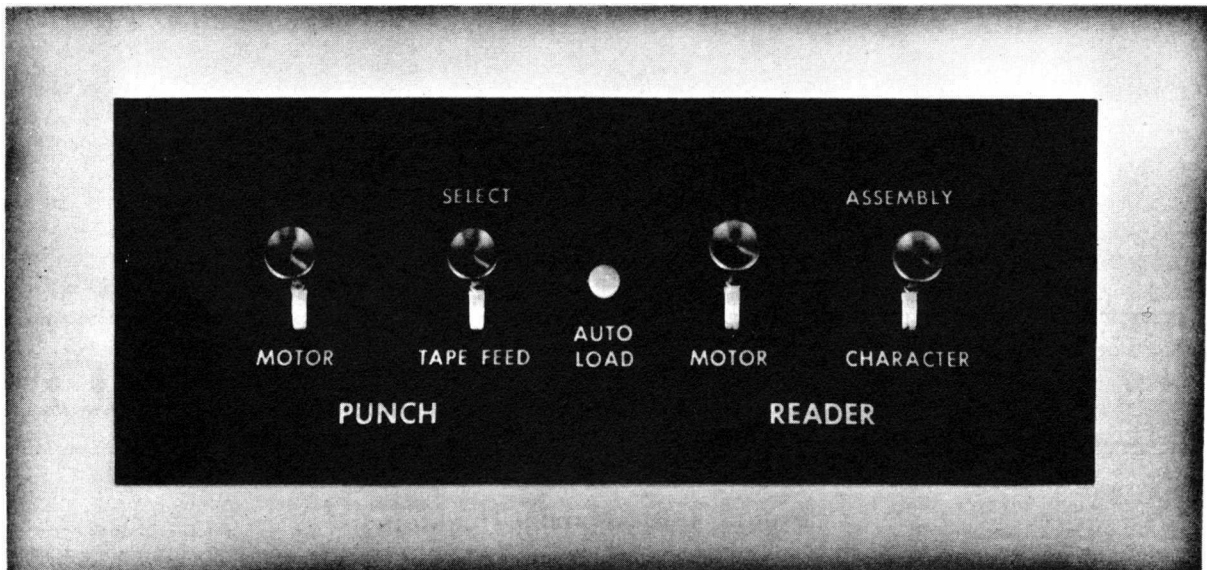

Figure 4-4. Reader and Punch Controls: Auto Load Control
- 7) Select the desired mode of operation by the Mode switch (figure 4-4) on the control panel.
- 8) Turn on Reader switch on control panel (figure 4-4).